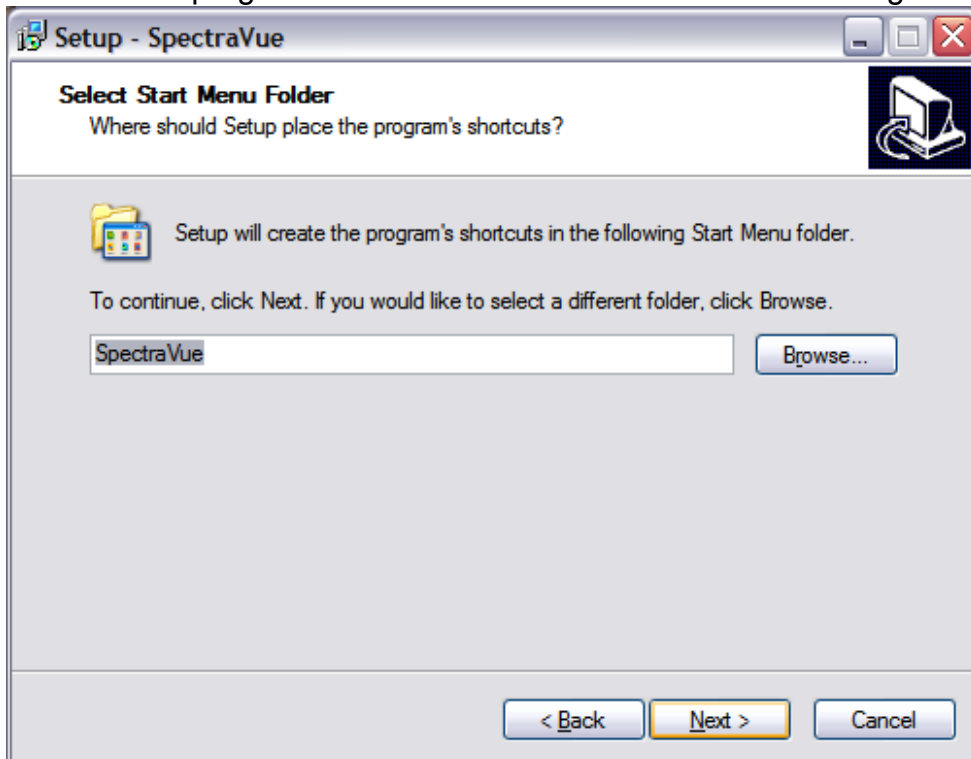

Fig 4: Program Shortcut
1.4 Create the program shortcut in the Start Menu folder as in Fig 4.